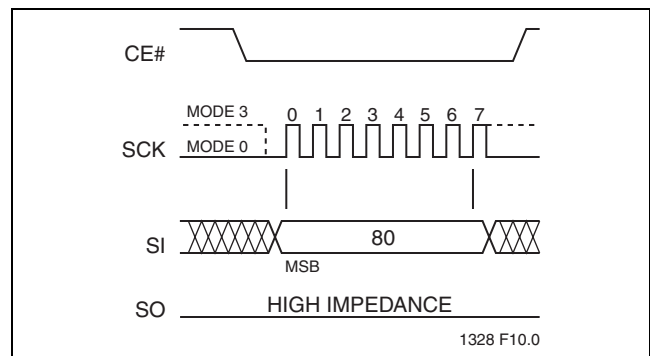

FIGURE 10: Disable SO as Hardware RY/BY# during AAI Programming
The 8-bit command, 80H, disables the Serial Output (SO) pin to output busy status during AAI-Word-program operation, and re-configures SO as an output pin. In this state, the SO pin will function as a normal Serial Output pin. At this time, the RDSR command can poll the status of the Software Status Register. This is shown in Figure 10.